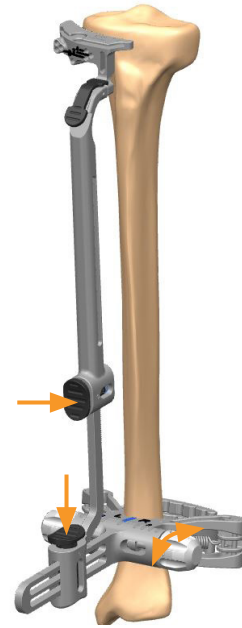

Figure 80
1. Open the arms of the ankle clamp and attach alignment jig to the tibia. Adjust height and slope by depressing the buttons on the Macro Alignment Tube and EM Posterior Slope guide, respectively (Figure 80).